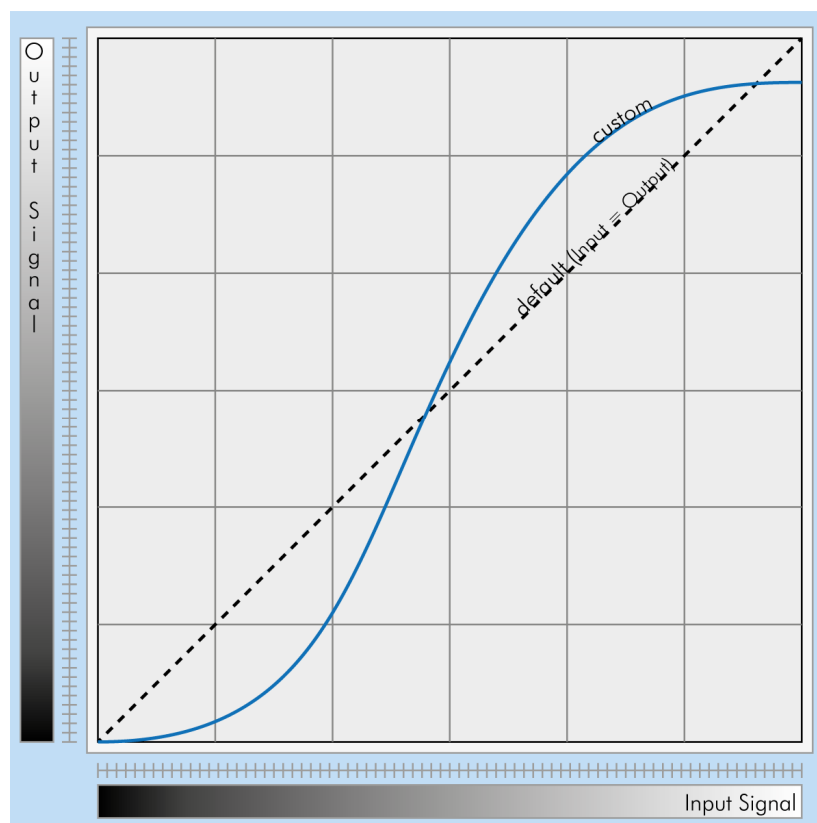

Figure 1: Custom LUT adding contrast to the midtones
Figure 1: (A) Linear polarization at 125° and 2D representation of the electric field vector for a complete cycle. (B) Circular polarization and 2D representation of the trace of the electric field vector over a complete cycle describes a circle. (C) Light from multiple sources, as obtained from the sun or incandescent light bulbs, consists of multiple wave trains. They generally show intensity and oscillation orientations that are statistically distributed, so called unpolarized light. It shows the reflection at the interface of a dielectric material. The reflectivity of the polarization component that is parallel to the surface normal differs from the polarization component that is perpendicular to it. Thus, the resulting polarization is not unpolarized anymore but partially polarized. (D) For a specific angle that is material depended only the polarization component that is parallel to the surface normal gets reflected. This angle is called the Brewster angle.